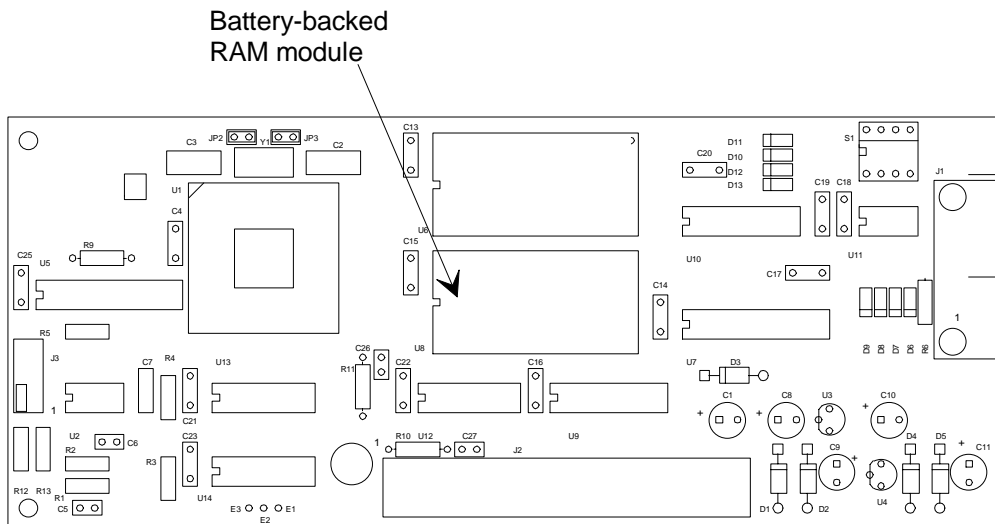

Figure 12: Location of the Battery-backed RAM Module
4. *Figure 12: Location of the Battery-backed RAM Module* provides the location of the battery-backed memory module on the CPU board.